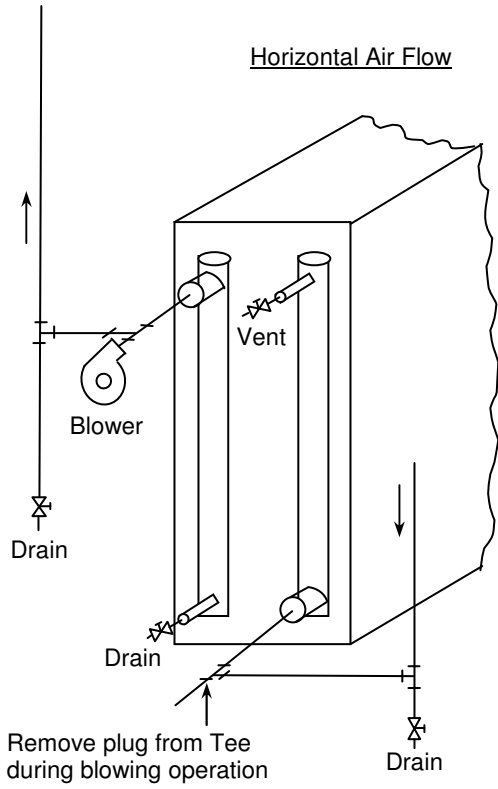
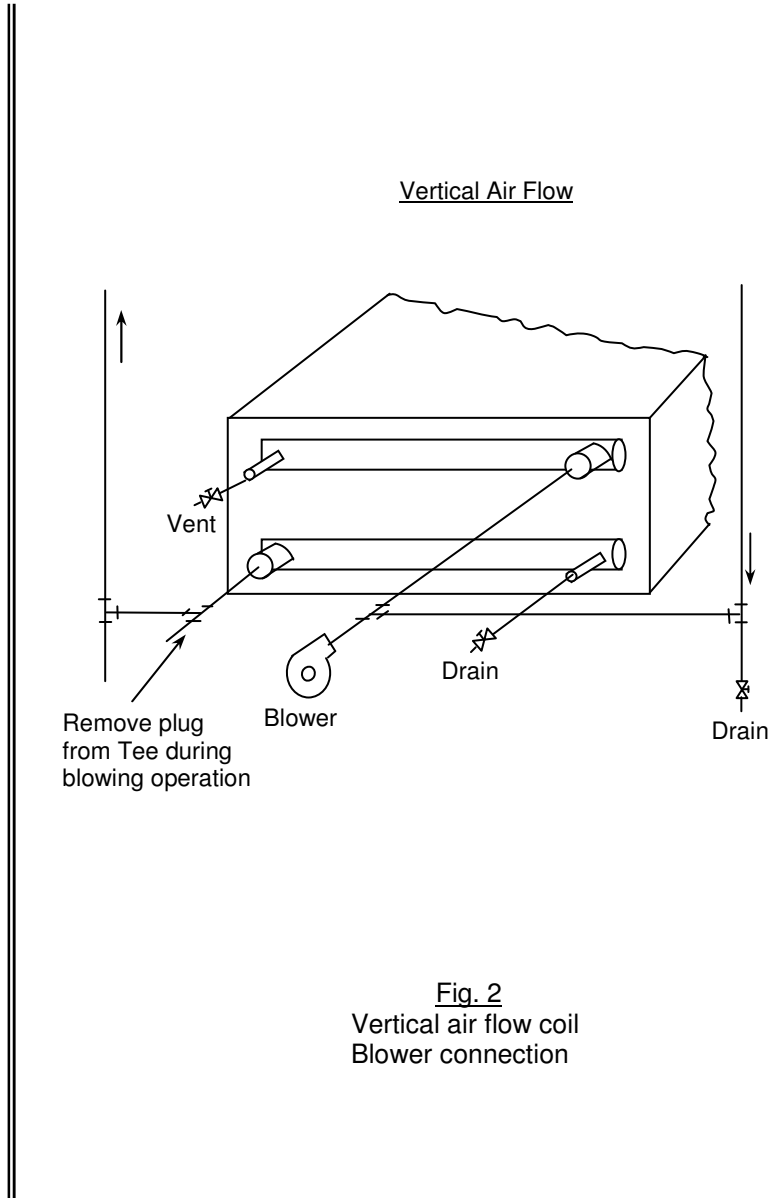

Fig. 1
Fig. 2
2. Drain the coil, using vent and drain valves when provided. In Figures 1 and 2, this step requires opening of the header vent or removing the plug from the header tee, and opening all drains.
3. Connect the blower to the coil supply or return header (upper coil connection) at a point where there will be no reduction in pipe size from the blower to the coil. In Figure 1, the blower is shown connected to the header with top connection (return connection in most applications). Figure 2 shows the blower connected to the header at the top of the coil. Do not attempt to supply air to the coil by connecting the blower to the air vent or drain connection. They are too small and therefore sufficient air cannot be supplied to the coil.
4. Close all outlets on the header to which the blower is connected and remove the plug from the other header. See Figure 1 and 2 for plug location.